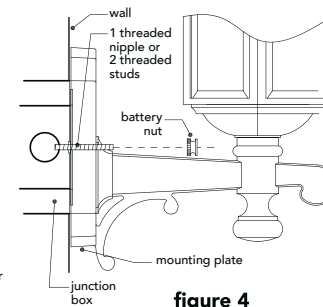

figure 4
6. Connect supply leads from junction box to luminaire leads. Use CSA/UL certified wire connectors (not included). Tuck connections into junction box. Slip threaded nipple (single crossbar) or threaded studs (double or round crossbar) into the hole(s) of the luminaire mounting plate (*Figure 4*). Tighten with provided battery nut(s).